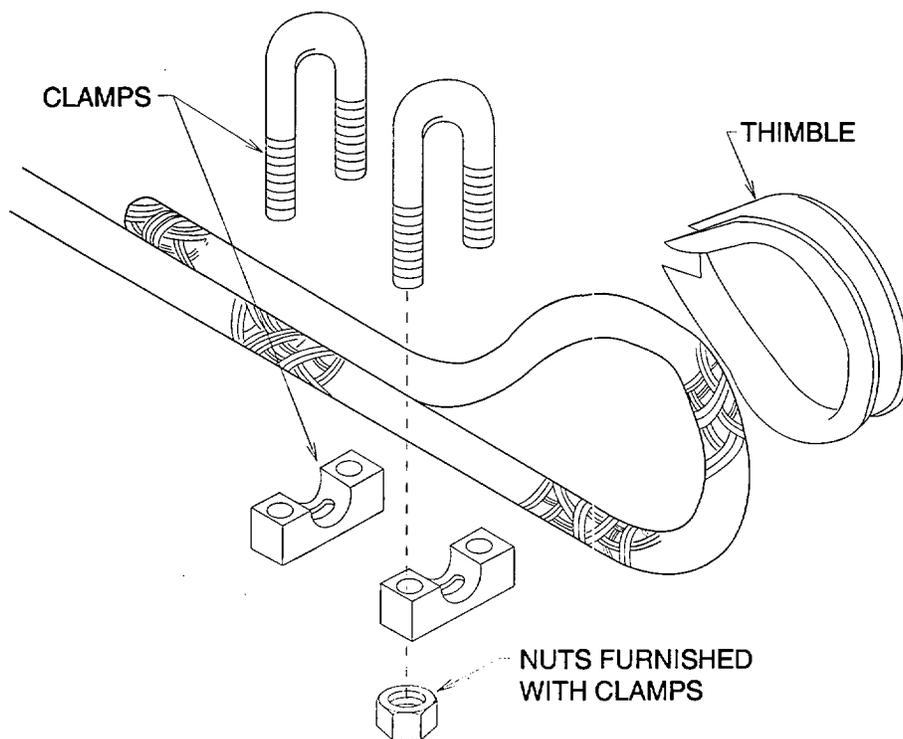

Figure 4-23. Installing Wire Rope Clamps
- (h) Attach turnbuckle to wire rope at one end and engage shackle with turnbuckle hook at the other end (figure 4-23).